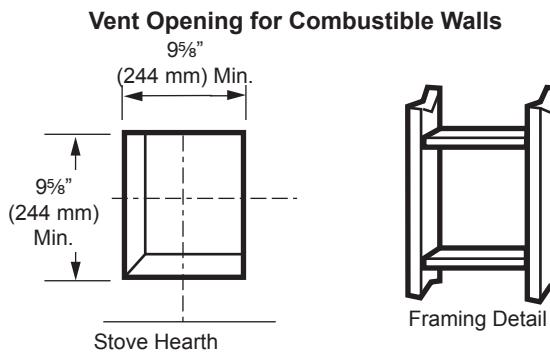

Figure 11 -
- Attach vent pipe assembly to the stove. Set stove in front of its permanent location to insure minimum clearances. Mark the wall for a 9½" (241 mm) square hole (for noncombustible material such as masonry block or concrete, a 7½" [190 mm] diameter hole is acceptable). *Figure 11.* The center of the hole should line up with the center line of the horizontal rigid vent pipe end. Be sure to allow for minimum rise. Cut a 9½"X9½" (241 X 241 mm) square hole through combustible exterior wall (7½" [190 mm] diameter hole if noncombustible). Frame as necessary. *Figure 11*
- Cut a hole in the roof using the locating hole as a center point. (Cover any exposed open vent pipes before cutting hole in roof). The $9\frac{1}{2}$ " x $9\frac{1}{2}$ " (241 x 241 mm) hole must be measured on the horizontal. Actual length may be larger depending on the pitch of the roof. There must be a 1" minimum clearance from the vent pipe to combustible materials. (Insulation should be considered a combustible material) Frame the opening as shown in *Figure 11* on Page 14.